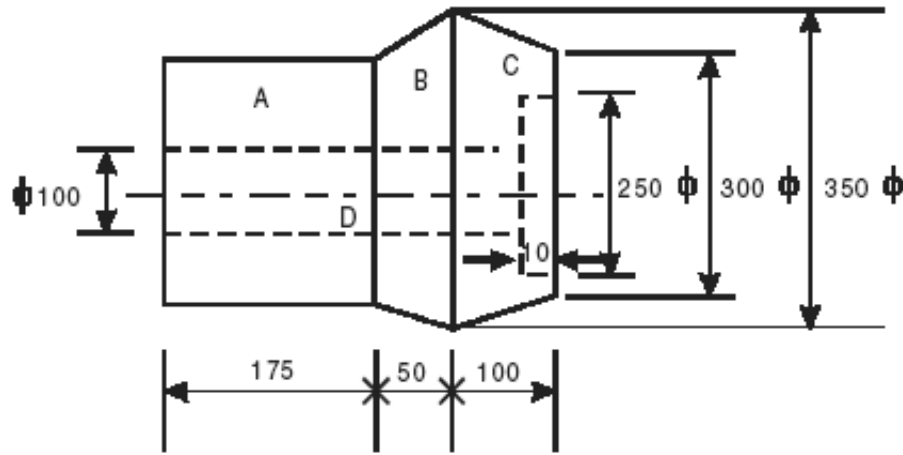

Figure 10
8. a) Figure 10 shows a cast bevel gear blank made up of mild steel. Find the weight and cost of material required for it. Assume the density of mild steel=7.85 gm/cc and its cost as Rs.60/kg.